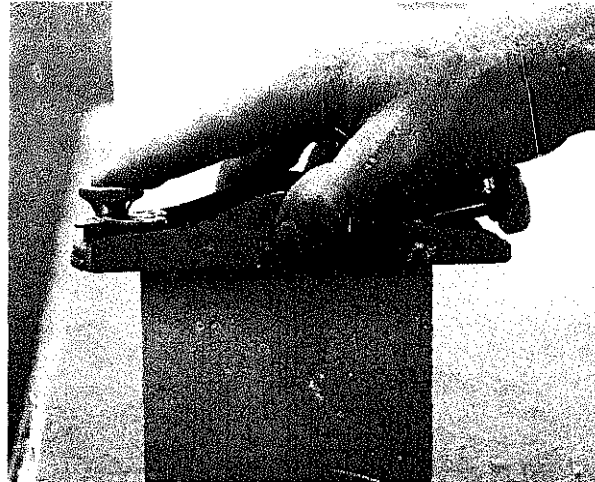

Fig. 8-49 How to hold a block plane.
1. First rest the palm of the hand to be used on the uppermost part of the plane. Then grasp the sides of the plane between the thumb and second finger, with the index finger resting in the hollow of the finger rest at the front of the plane. See figure 8-49.